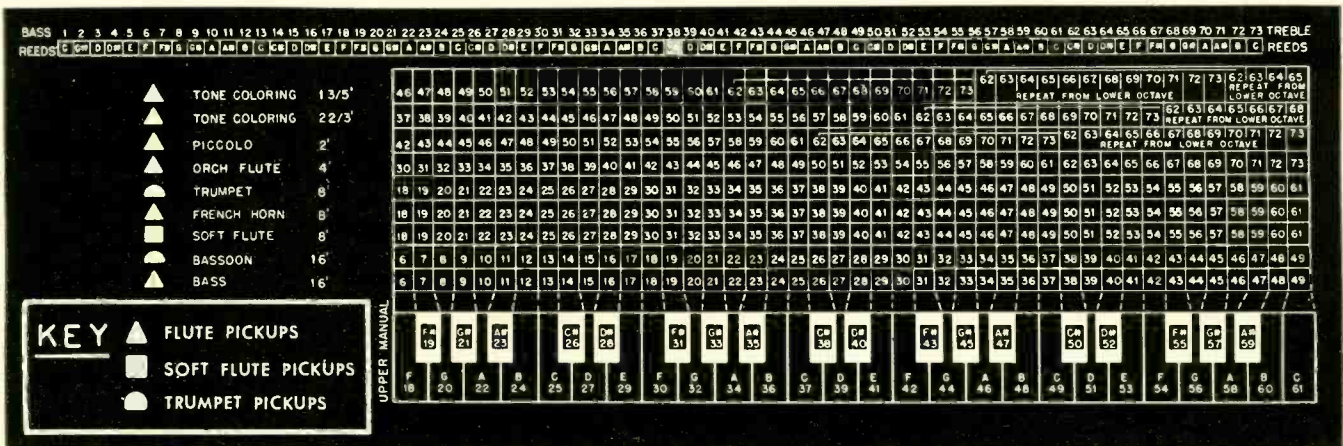

Fig. 1—Upper manual of the Wurlitzer organ. Key indicates type of pickup.
THE available variety of tone colors for both manuals of the Wurlitzer organ is obtained by mixing stops, since actually there are only two varieties of color, flute and trumpet. This scheme could be diagrammed only on a page at least several times the size of this, so only the upper manual is shown (Fig. 1).
Let us see what happens when we play the upper manual with the SOFT FLUTE 8' stop pulled. Start by pressing middle C (key 25) and find it on the manual in Fig. 1. Note that a horizontal column of figures extends to the right from the SOFT FLUTE 8' marking on the chart. Follow the line of boxes upward from key 25 until it intersects the SOFT FLUTE 8' line; you will find a box with the number 25. This indicates that when C25 is pressed with the SOFT FLUTE 8' stop pulled, a pickup on reed No 25 is energized.
Thus, from Fig. 1 we know that under these circumstances we will get only a soft flute tone from the organ, at the pitch of middle C.